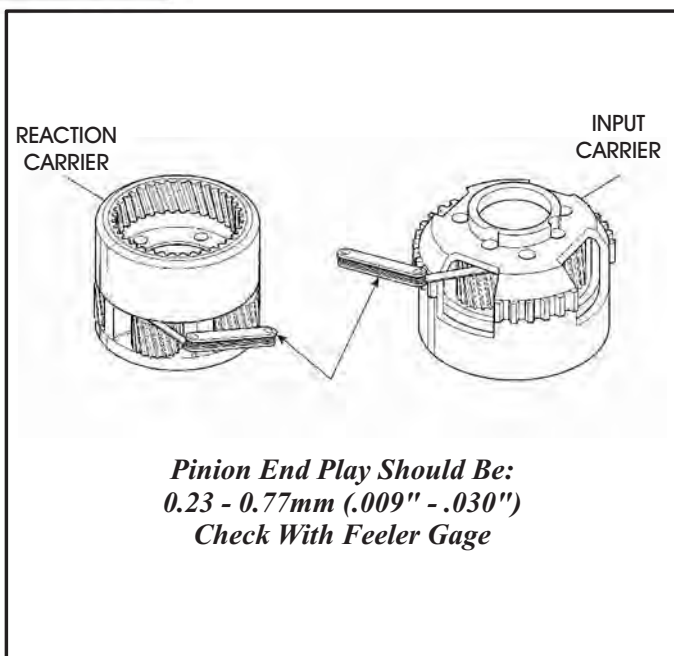

Figure 105
2. Check the planetary pinion end play with feeler gage, as shown in Figure 105. End play should be 0.23 - 0.77mm (.009" - .030").